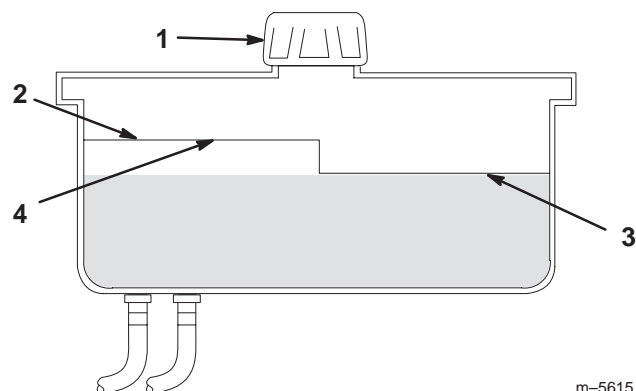

Figure 50
2. Clean area around filler neck of hydraulic tank (Fig. 50).
3. Remove the cap from the filler neck. Look inside to check if there is fluid in the reservoir (Fig. 50).
Note: The fluid level should be to the top of the **hot** level of the baffle, when the fluid is hot (Fig. 50).